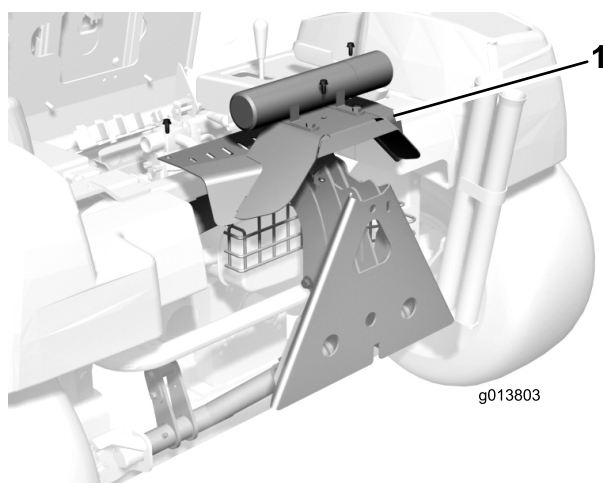

Figure 1
4. Remove the (3) screws securing the rear cover assembly to the frame (Figure 1). Remove the cover.